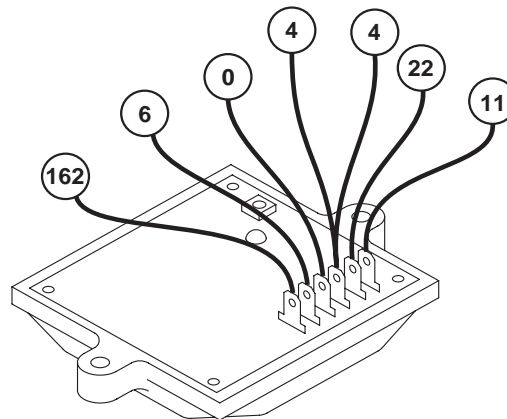

Figure 3. Voltage Regulator
- Disconnect Wire 2 from the voltage regulator and connect one meter test lead to that wire. Disconnect Wire 6 from the voltage regulator and connect the other meter test lead to that wire. Wires 2 and 6 are located at the bottom two terminals of the voltage regulator (see Figure 3).